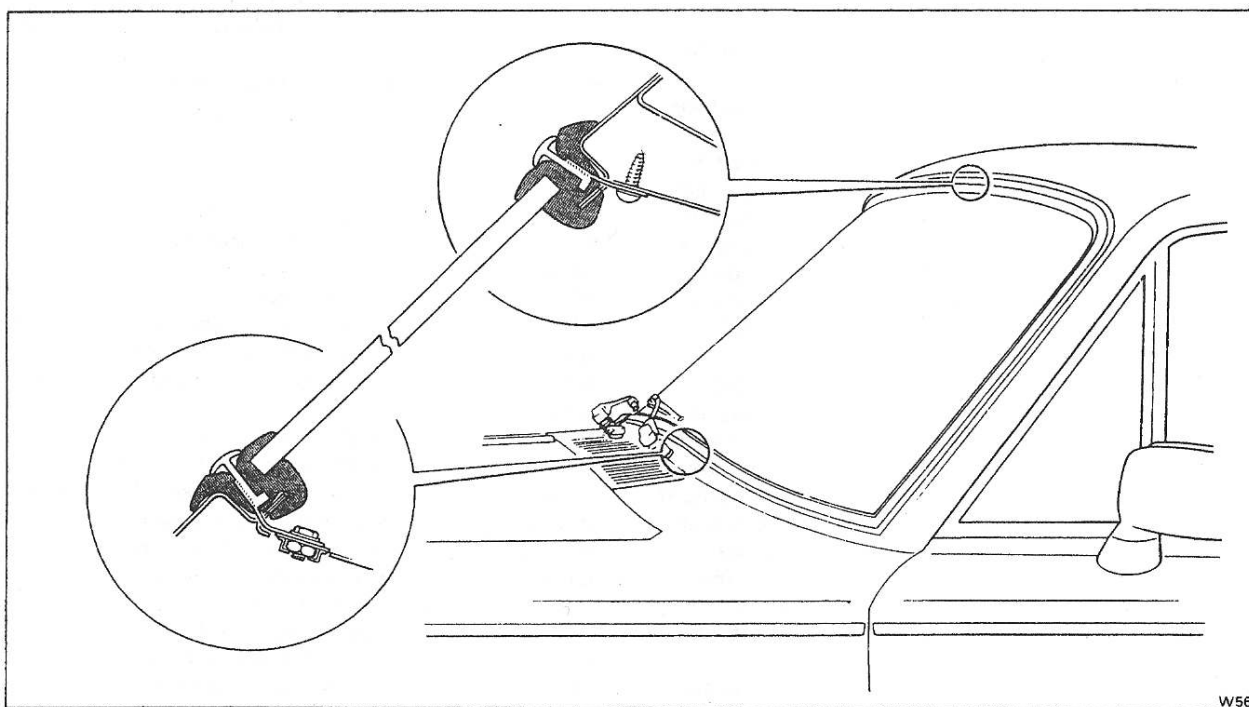

Fig. S137 Windscreen retention (Corniche) — Cars destined for U.S.A. and Canada
9. On cars conforming to a U.S.A. and Canadian specification remove the two screws retaining the top of the windscreen to the header panel. Also, remove the two bolts and washers retaining the bottom of the windscreen (see Fig. S137).
15. Locate the holes from which the top retention plates have been removed then place a large washer beneath the plate. Using self-tapping screws, secure the plates into position (see Fig. S137).
16. Fit the bolts and washers into the bottom retention plates locating them into the cage nuts (see Fig. S137).
12. On cars conforming to a U.S.A. or Canadian specification remove the two screws retaining the top of the windscreen to the top rail. Also, remove the two bolts and washers retaining the bottom of the windscreen (see Fig. S137).